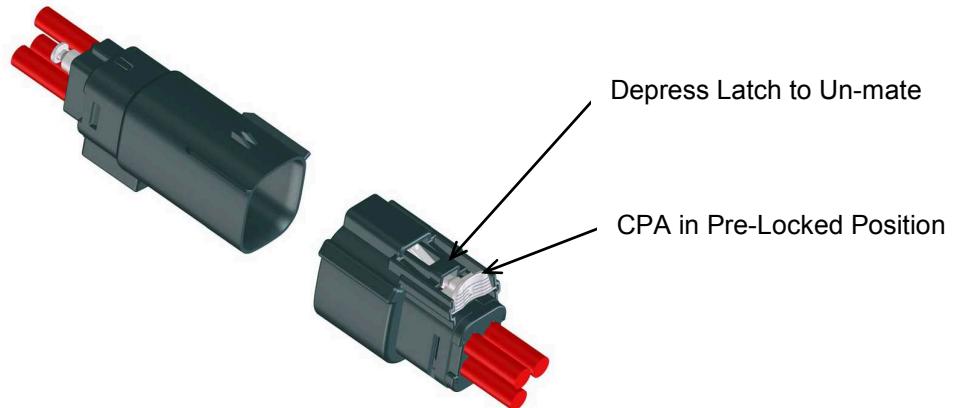

Figure 13: Connectors Un-mated
2. To un-mate connectors, pull CPA towards rear or wire entry end of receptacle. While lightly pushing connectors together, depress latch and then pull the mated connectors apart (See Figure 13).